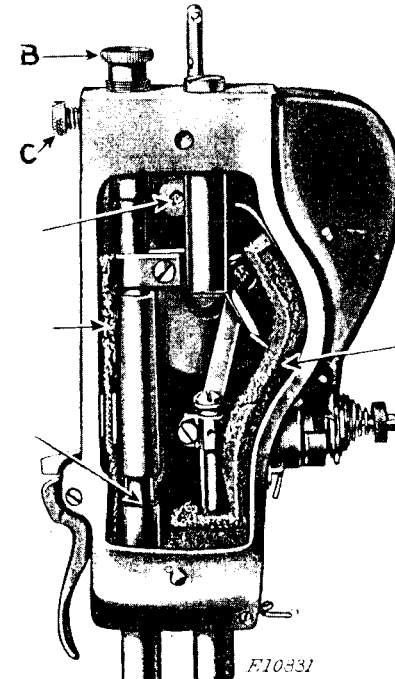

Fig. 4. End View of Machine, Showing Oiling Points Also Adjustments on the Machine
The pressure of the presser foot on the material is regulated by the thumb screw (B, Fig. 4) at the top of the machine. To increase the pressure, loosen the set screw (C, Fig. 4) at the back of the machine and turn the thumb screw (B) downward. To decrease the pressure, turn the thumb screw (B) upward. When the required amount of pressure is obtained, tighten the set screw (C) at the back of the machine.